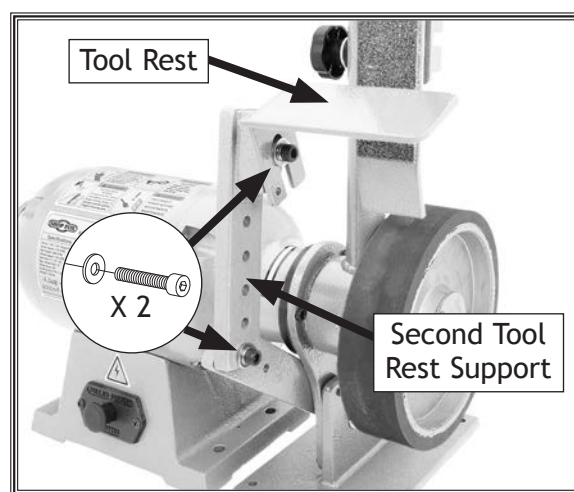

Figure 16. Tool rest installed.
18. Position the second tool rest support so that its flat side faces the first support, then secure it with (1) $\frac{5}{16}$ "-18 x $1\frac{1}{4}$ " cap screw and flat washer removed in Step 16, as shown in Figure 16.
19. Secure the tool rest to the support assembly with the remaining $\frac{5}{16}$ "-18 x $1\frac{1}{4}$ " cap screw and flat washer, as shown in Figure 16.